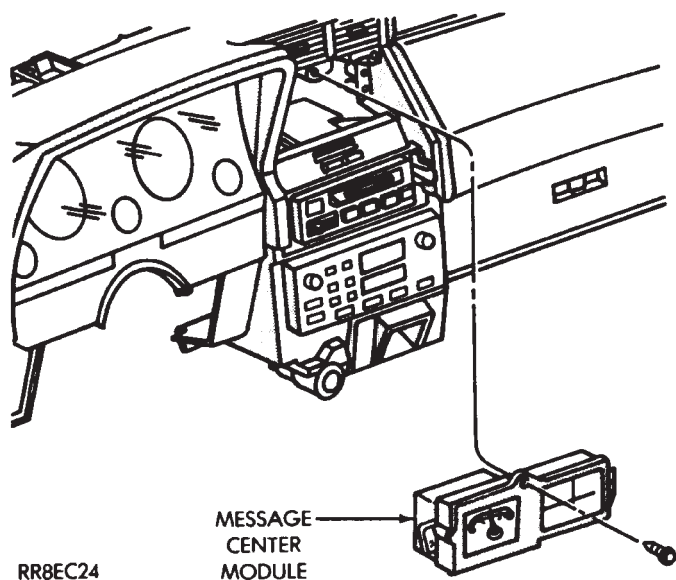

Fig. 20 Turbo Gauge and Message Center Module
- (1) Remove center bezel assembly.
- (2) Remove three screws retaining Turbo Gauge/Message Center to instrument panel (Fig. 20).
- (3) Pull module rearward, disconnect wiring and vacuum connectors and remove from vehicle.
- (4) For installation reverse above procedures.